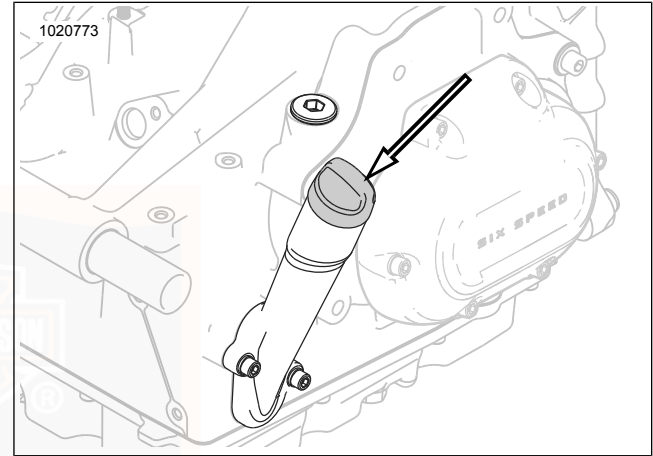

Figure 52. Engine Oil Filler Plug
2. See Figure 52. Check engine oil level.
3. See Figure 52. Check oil level.